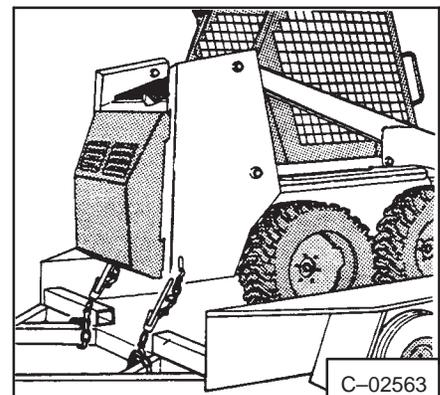

Fig. 1-48 Fastening the Loader
- Fasten the chains, one in each upright cutout, to the loader and to the transport vehicle (Fig. 1-48).